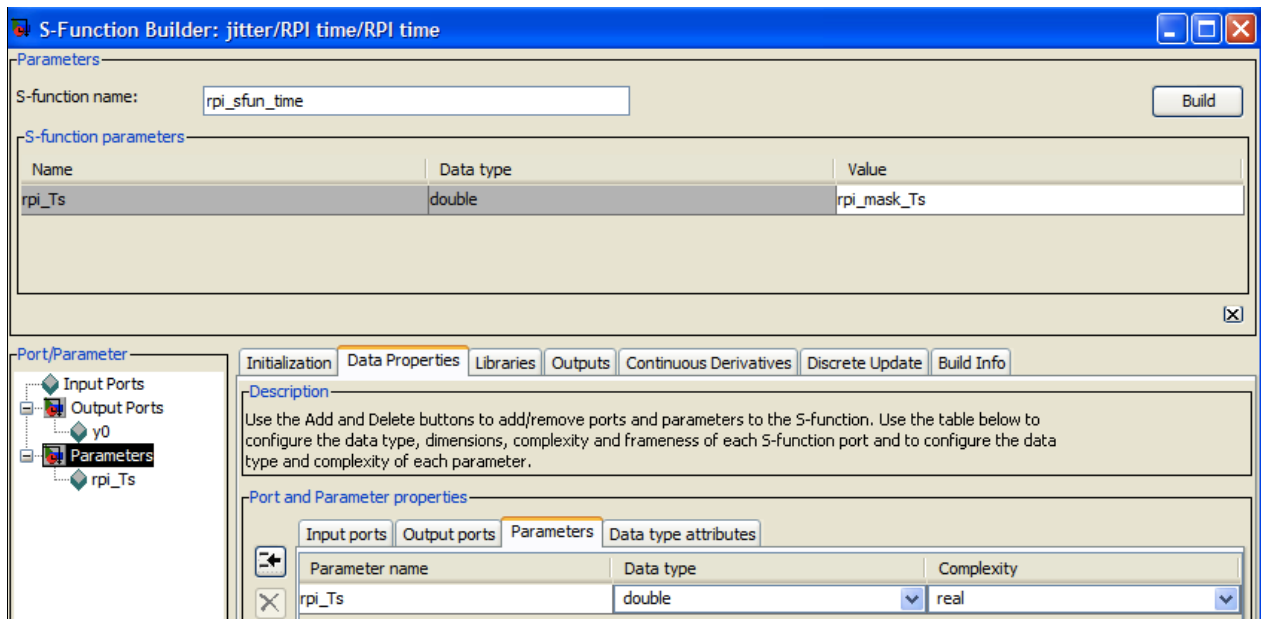

Figure 14 - Defining the sampling time parameter
5. In the “Data properties” tab and the “Parameters” subtab, add a new parameter and call it “My_sampling_time”. At the top of the dialog box, in the “S-function parameters” area, you now have a line dedicated to this parameter. Enter a variable name in this field that will be used later in a mask dialog box to define the sampling time of the whole masked block (Figure 14).